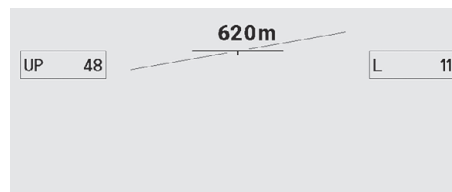

Fig. 4
2. Press the On/Off button (2/1) again briefly to go to the alternative menu (Fig. 4).